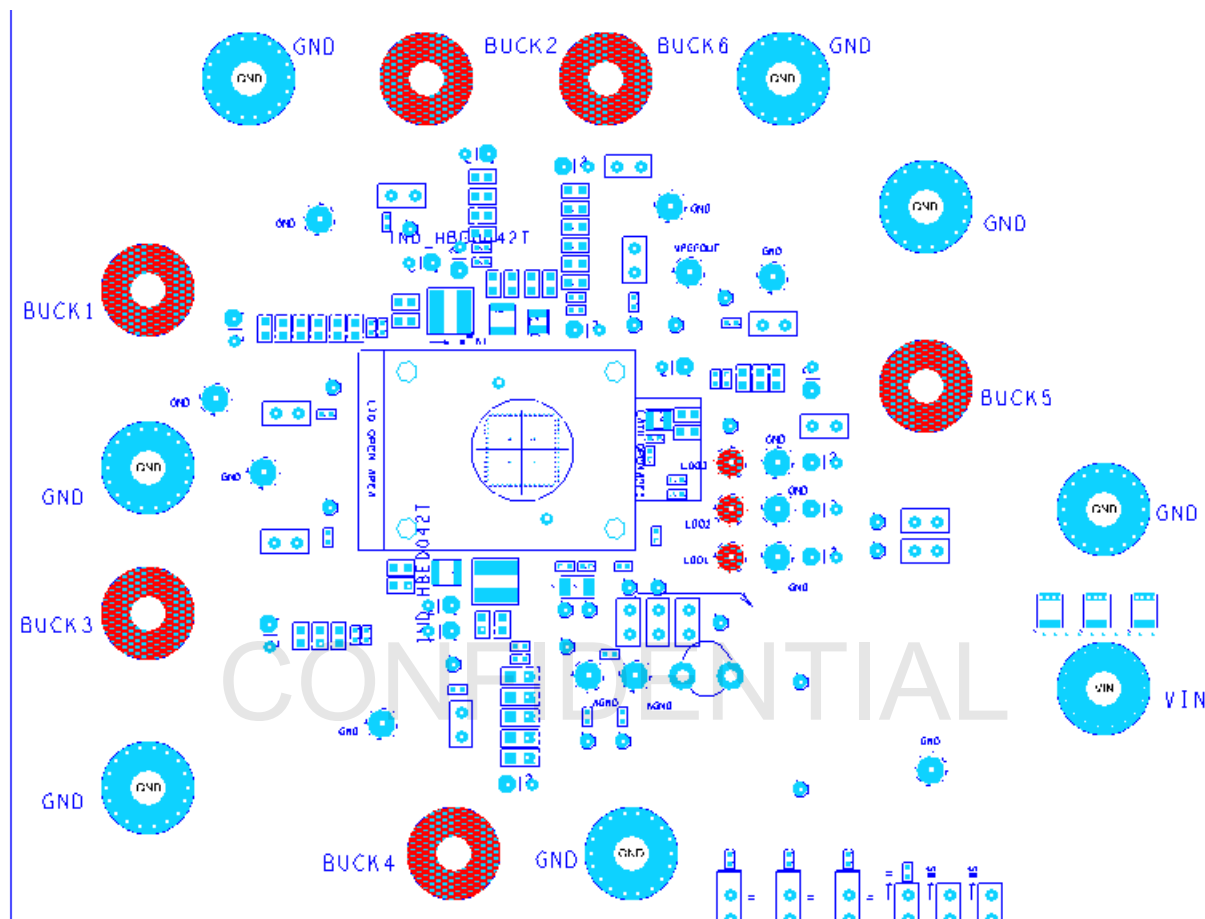

Figure 8. Regulator Load Connection Points
2. Connect loads to the buck regulator outputs at the 4mm banana sockets shown in Figure 8. The ground of each output is the black socket adjacent to its respective red socket. The sockets include screw-down connections that can be used for connecting electronic load remote sensing.